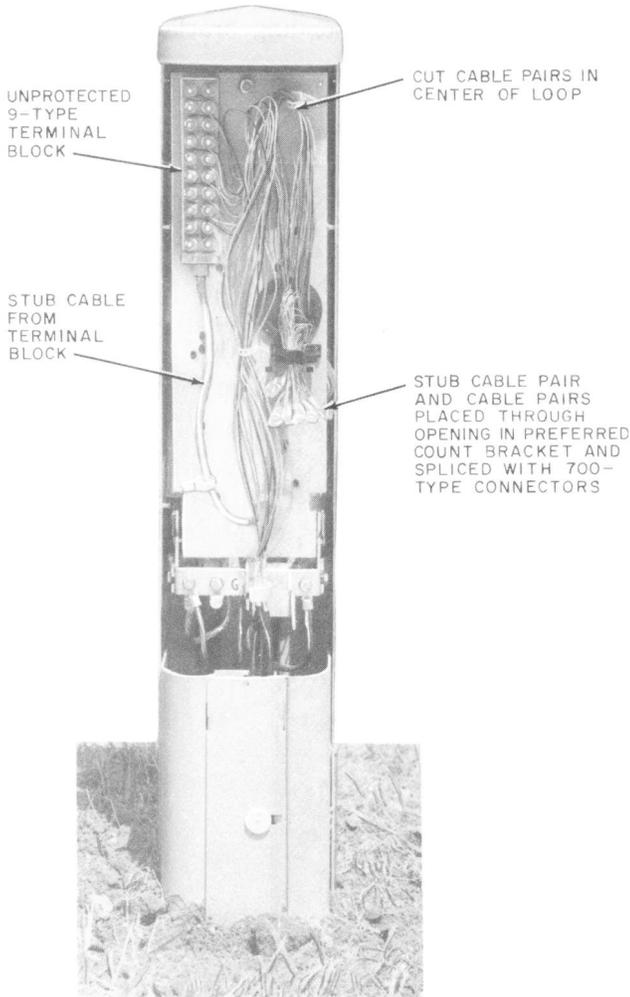

Fig. 18—Preferred Count PC6/48 Cable Closure With Unprotected Terminal Block—Typical for PC12/55 Cable Closure
6.03 Remove the sheath from the stub cable of the 9-type terminal block as shown in Fig. 18 and pass the stub pairs through the preferred count bracket.